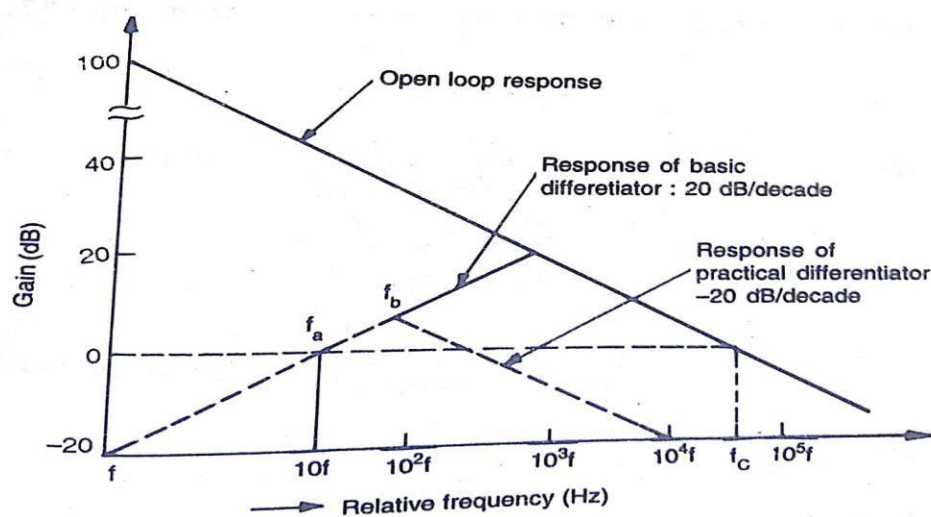

Fig. 4.21 (c) Frequency response
from eq(3), it is evident that the gain increases at + 20 dB/decade for frequency $f < f_b$ and decreases at -20 dB/decade for $f > f_b$ as shown by dashed lines in figure 4.21(c)
- For the basic differentiator of Fig.4.21(a) the frequency response would have increased continuously at the rate of +20dB/decade even beyond f_b causing stability problem at high frequency.